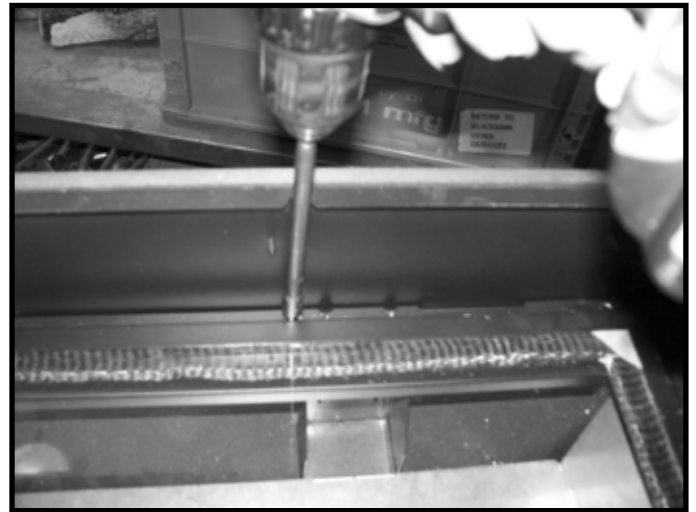

Figure 9.4 Gas and Electrical Access - Remove Glass Window
10. Remove the eight screws that secure the glass window. Remove the glass window. Handle with care. See Figure 9.4.